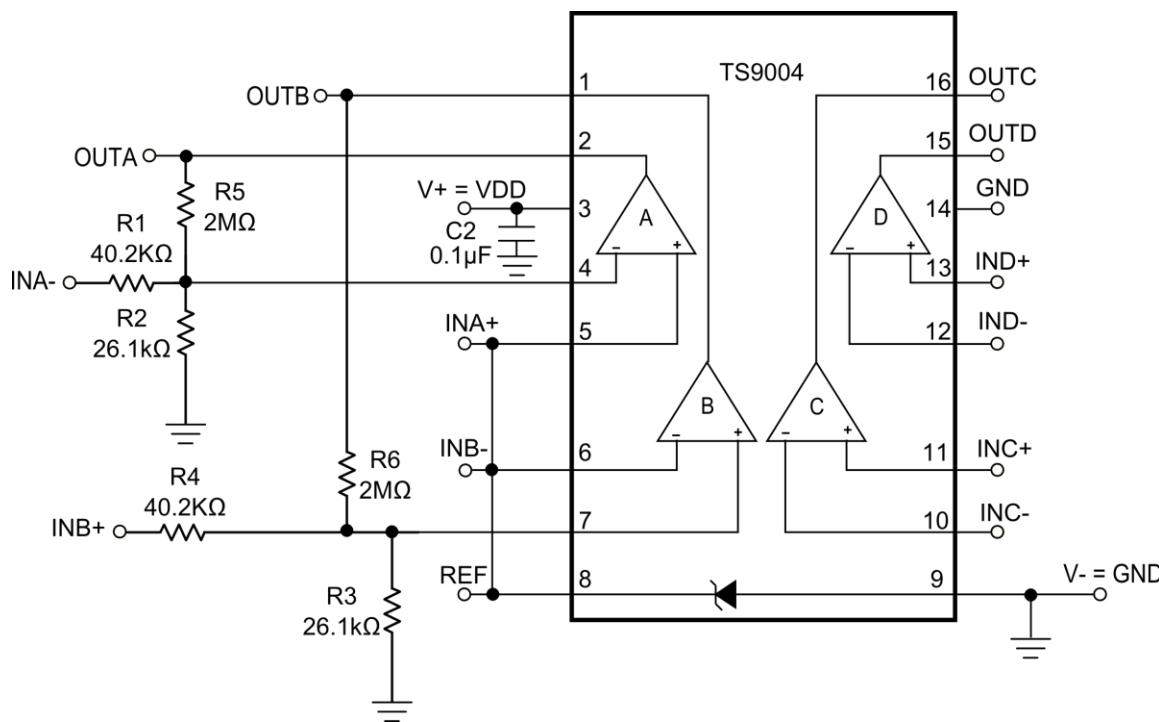

Figure 3. TS9004 Demo Board Circuit
The demo board provides a configuration where only three resistors are required to set the hysteresis band, V_{HB} , as shown in Figure 3. Adding comparator hysteresis creates two trip points: V_{THR} (for the rising input voltage) and V_{THF} (for the falling input voltage). The hysteresis band (V_{HB}) is defined as the voltage difference between the two trip points.
12) Evaluation of comparator C and D can be performed on the TS9004 demo board. Access to the input and output of comparator C and D is available as shown in Figure 3.